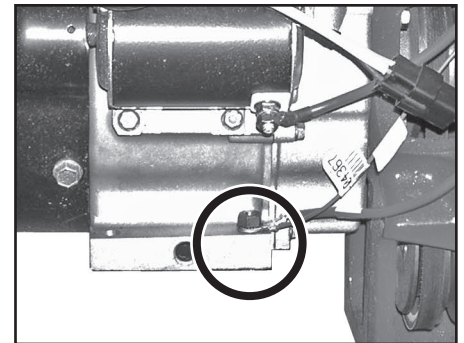

Figure 2-5A. Ground green (and red for electric start units) wire(s) to engine block.
1. Ground green (and red for electric start units) wire(s) to engine block, Figure 2-5A.